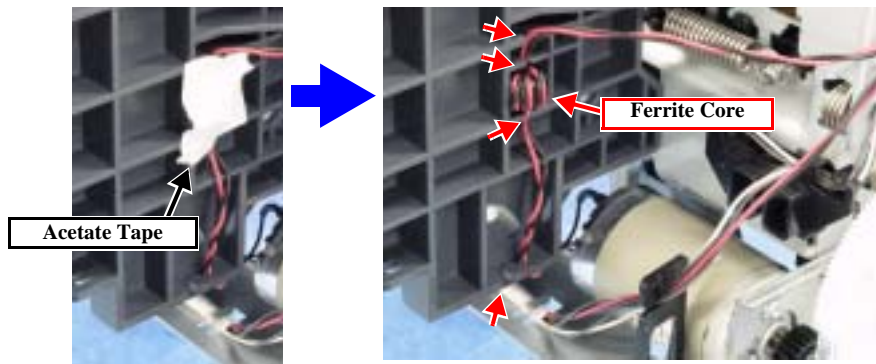

Figure 4-60. Lead Wires on the ASF Assy
4. Release the lead wires of the PF Motor. (Fig. 4-60)
3. At the left side of the ASF Assy, peel off tape, and disconnect the lead wires of the PF Motor from the ASF Assy. (Fig. 4-60)